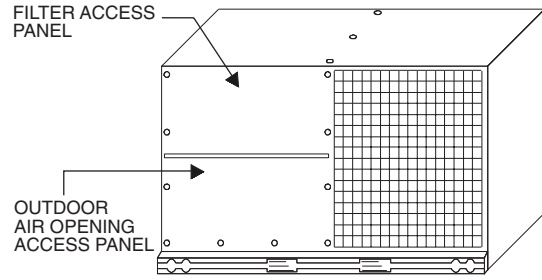

Fig. 16 — Outdoor Air Opening Access Panel Location
1. Remove the outdoor air opening access panel and discard. See Fig. 16.
1. Remove the EconoMi\$er hood from its packaging, and locate the outdoor air (OA) panel. See Fig. 16.